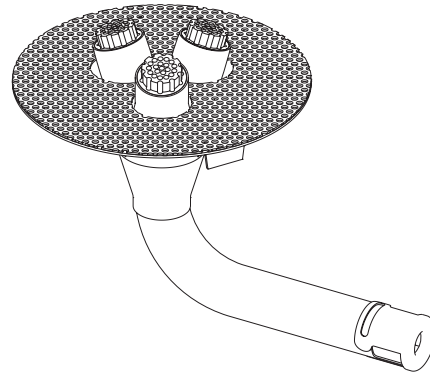

Figure 52
6. Fit the Center Burner and Center Burner Screen together as shown in **Figure 52**.